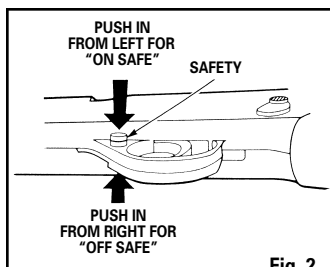

Fig. 2
• Push the safety from the left side all the way in (Fig. 2). The safety is not "On Safe" unless it is pushed all the way in and the RED ring around the safety is not showing. The air rifle will not fire when "On Safe".